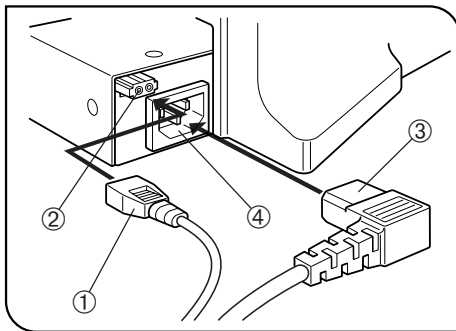

Fig. 35
7 Connecting the Cables and Power Cord (Figs. 35 & 36)
1. Connect the plug ① of the lamp socket cord firmly to connector ② on the rear of the microscope. (Fig. 35)
2. Connect the power cord connector ③ to connector ④ firmly. (Fig. 35)